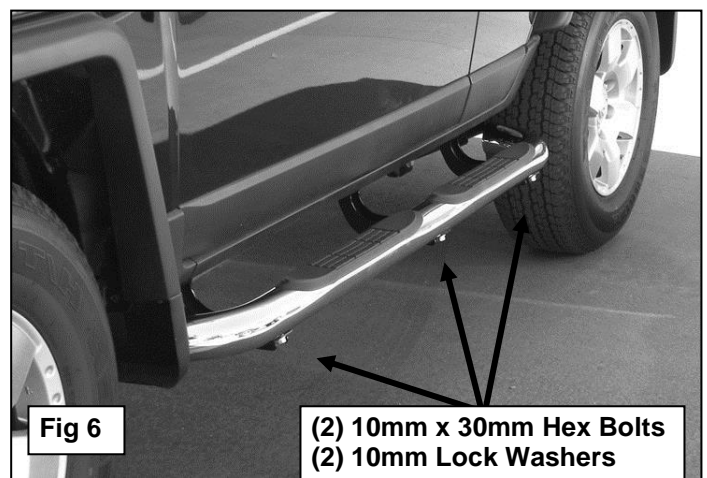

Fig 6
4. With assistance, carefully place the Driver/Left Sidebar onto the (3) Brackets. **WARNING:** Do not rotate the Sidebar on the cradle or the finish on the Sidebar may be damaged. Line up the threaded holes in the bottom of the Sidebar with the slots in the Mounting Brackets. Attach the Sidebar to the Mounting Brackets with the included (6) 10mm x 25mm Hex Bolts, (6) 10mm Lock Washers and (6) 10mm Flat Washers, **(Figure 6)**. Do not tighten at this time.